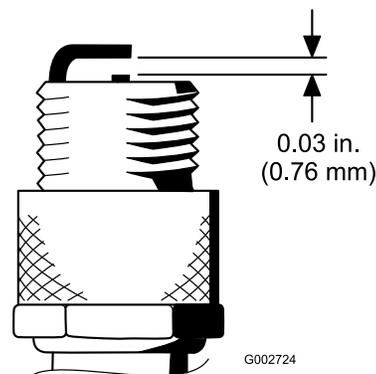

Figure 38
4. Set the air gap between the center and side of the electrodes at 0.76 mm (0.030 inch) as shown in Figure 38.